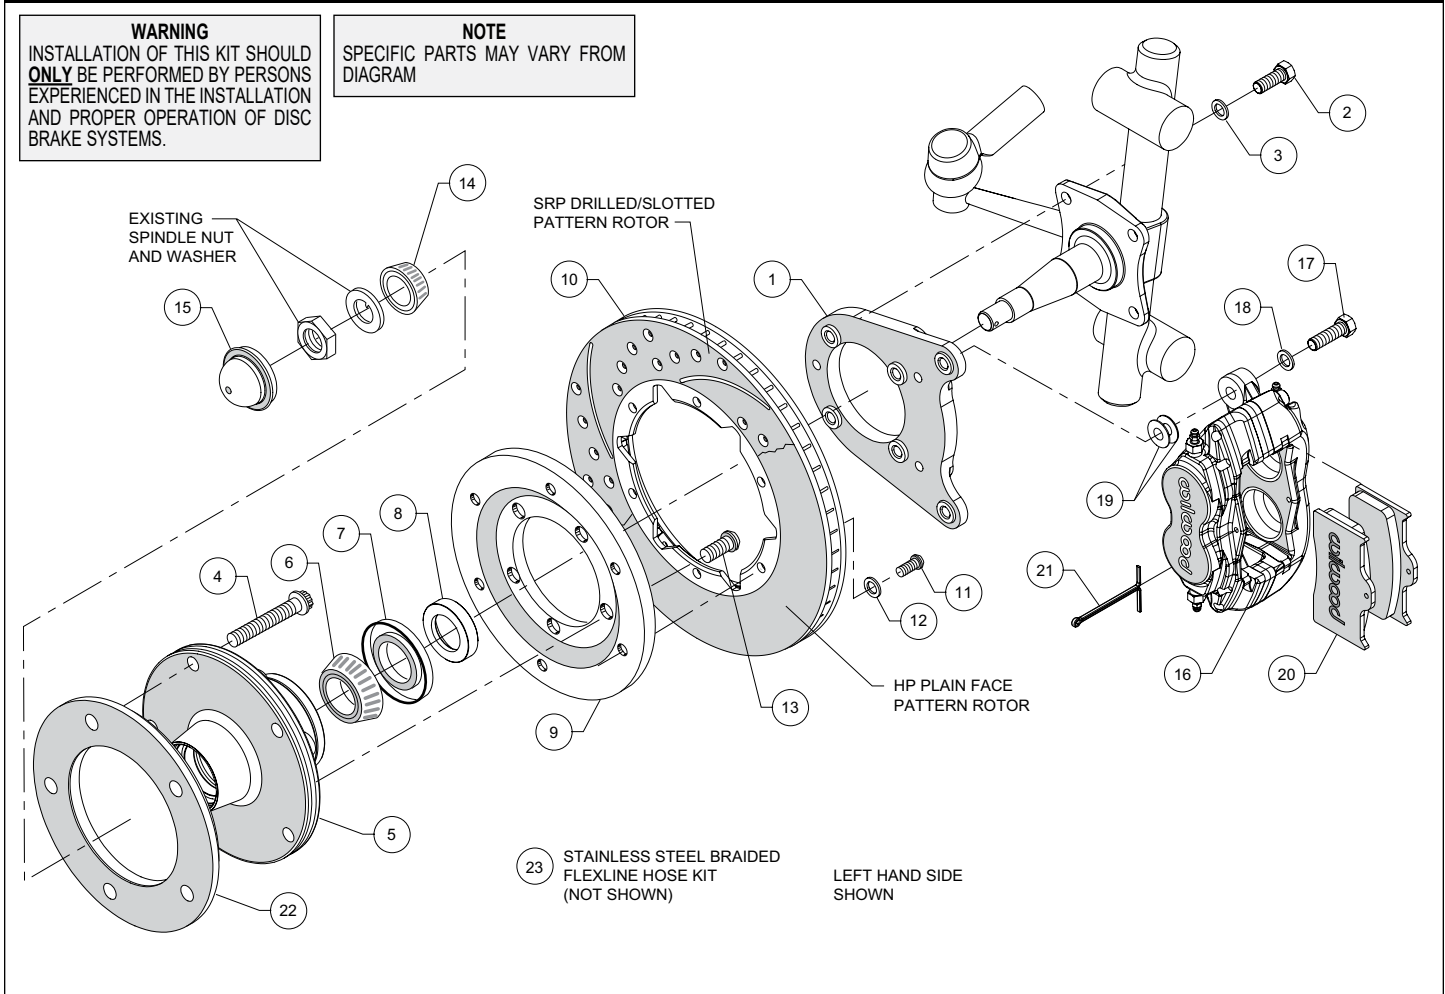

Figure 1. Typical Installation Configuration
NOTE: Numbers in parenthesis refer to the parts list and Figure 1 on the preceding pages.
- Orient the caliper mounting bracket (1) as shown in Figure 1 and Photo 1, and attach using bolts (2) and washers (3). Temporarily tighten the mounting bolts. Ensure that the flanged heads of the clinch nuts in the bracket are facing outboard, Photo 1. **NOTE:** The bracket must fit squarely against the mounting points on the spindle. Inspect for interference from casting irregularities, machining ridges, burrs, etc. Remove bolts one at a time, apply red *Loctite*® 271 to threads, and torque to 40 ft-lb.
- Install the grease seal (7) by pressing into the backside of the hub (5), flush with the end of the hub, Photo 3.
- Slide the bearing spindle spacer (8) onto the spindle. Ensure the chamfered I.D. faces inward, Photo 4.
- Orient the rotor (10) and the rotor adapter (9) as shown in Figure 1 and Photo 5. Attach the rotor to the adapter using bolts (11), and washers (12). Using an alternating sequence, apply red *Loctite*® 271 to the threads, and torque to 25 ft-lb.
- Mount the adapter/rotor assembly (9/10) to the hub (5) using bolts (13), as shown in Figure 1 and Photo 6. Apply red *Loctite*® 271 to the bolt threads and torque to 45 ft-lb using a criss-cross pattern.
- Pack the small outer bearing cone (14) with high temperature disc brake bearing grease and install into hub (5). Slide the hub/rotor assembly onto the spindle, Photo 7. Secure using OEM spindle washer and OEM spindle nut. Adjust bearings per OEM specifications. Bearing adjustment: Tighten the nut while turning the hub. When there is a slight bind on the bearings, they are seated correctly. Back the nut off about 1/6 to 1/4 of a turn, or sufficiently to allow .001" to .007" end play. **WARNING:** Failure
•**NOTE:** Please reference the caution statement at the beginning of the assembly instructions. Mount the caliper (16) onto the caliper mounting bracket (1) using bolts (17) and washers (18), as shown in Figure 1. Initially place two .035" thick shims (19) on each bolt between the caliper and the bracket, Photo 9. Temporarily tighten the mounting bolts and view the rotor (10) through the top opening of the caliper. The rotor should be centered in the caliper, Photo 10. If not, adjust by adding or subtracting shims between the bracket and the caliper. Always use the same amount of shims on each of the two mounting bolts. **NOTE:** The end of each bolt must be flush with or slightly protruding from the head of the clinch nut, as shown in Figure 3. If necessary place spare shims between washer (18) and caliper mounting ear to achieve the proper clinch nut engagement. Once the caliper alignment and clinch nut engagement are correct, remove the bolts one at a time, apply red *Loctite*® 271 to bolt threads, and torque to 40 ft-lb.
•Install the disc brake pads (20) into the caliper, with the friction material facing the rotor (10), Photo 11 and secure in place using cotter pin (21), Photo 12.
•Install wheel spacer (22) over the wheel studs. **NOTE:** Use of wheel spacer is mandatory.
•**NOTE:** OEM rubber brake hoses generally cannot be adapted to Wilwood calipers. The caliper inlet fitting is a 1/8-27 NPT (use PTFE tape on pipe threads of adapter fitting for proper sealing to caliper). Install Wilwood's stainless steel braided flexline hose kit (23), P/N 220-15157 included with this kit as shown in Photo 13. **Carefully route hoses to prevent contact with moving suspension, brake or wheel components.** **NOTE:** Wilwood hose kits are designed for use in many different vehicle applications and it is the installer's responsibility to properly route and ensure adequate clearance and retention for brake hose components. Hose kit include hoses, fitting, etc., all in one package for this application.